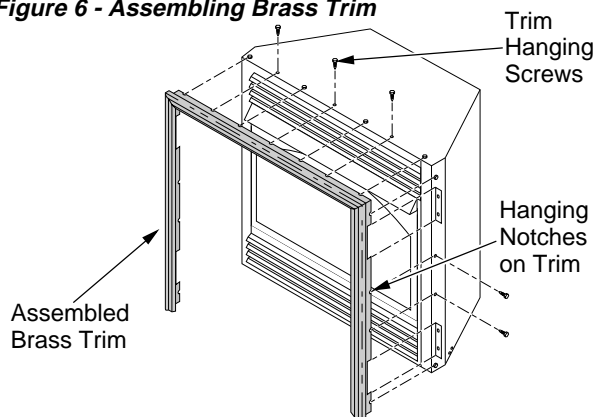

Figure 7 - Attaching Brass Trim to Fireplace (VSGF33NRA Shown)
8. Tighten trim hanging screws (#10 x 6.25 shoulder) into holes in cabinets. Place the assembled trim onto fireplace cabinet. Align hanging notches on trim with hanging screws on side of fireplace (see Figure 7). Push trim firmly into place, sliding hanging notches over hanging screws.
10. Install brass trim after final finishing and/or painting of wall (see Figure 7, page 8).